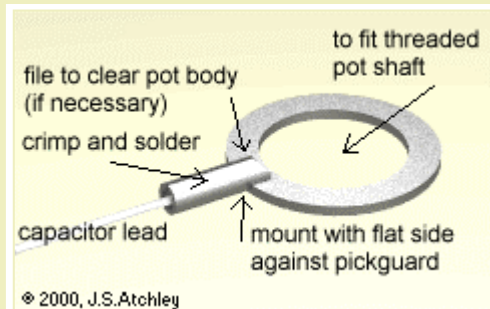

Figure 2a
14. Crimp **and** solder one lead of the .33uf, 400V capacitor to a large ring connector (see figure 2a and 2b).